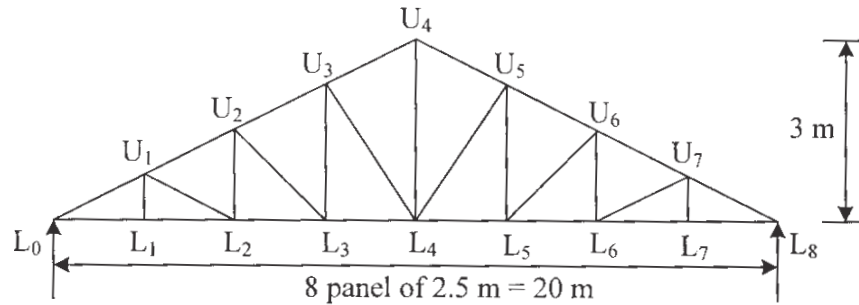

Fig. 7
- Q7)** A truss shown in Fig. 7 is used for an industrial building covered with AC sheet located at Pune. Calculate the panel point dead, live and wind load. Also design the members L_0L_1 , U_1L_1 and L_0U_1 , assuming spacing of trusses 3m, $k_1 = 1$, $k_2 = 0.98$, $k_3 = 1$, $d(C_{pe} - C_{pi}) = \pm 0.8$. Draw the design sketches. **[25]**